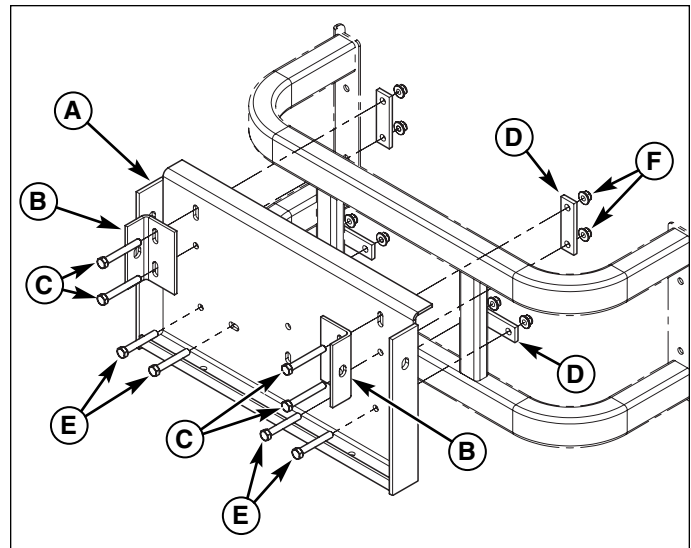

Figure 22. Install Collector Mount Plate
1. Install the collector mount plate (A, Figure 22) and mount tabs (B) on to the bumper. Install the 3/8-16 x 2-3/4" bolts (C) through the mount tabs and loosely secure with the clamp bars (D) and 3/8-16 nylock flange nuts (F).
2. Install the 3/8-16 x 2-1/2" bolts (E) through the bottom mounting holes and loosely secure with the clamp bars (D) and 3/8-16 nylock flange nuts (E).
3. Center mount plate on the bumper and tighten the bottom bolts (E) securely.
5. Tighten the top mounting bolts (C, Figure 22) securely and remove the hitch pins and mount posts.